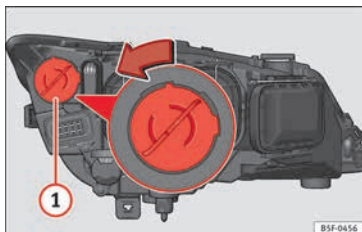

Fig. 105 Day light bulb.
- Turn the bulb holder » **Fig. 105 ①** anti-clockwise and pull.